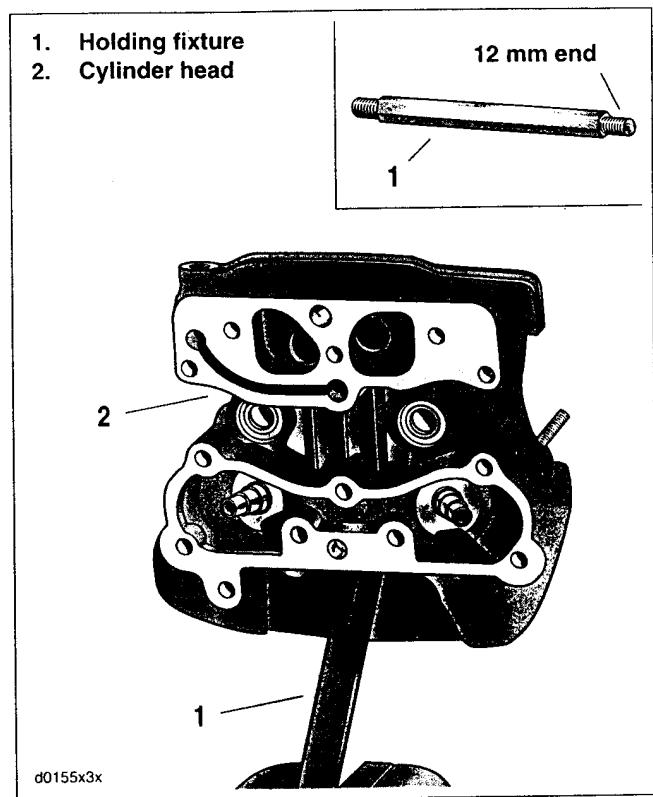
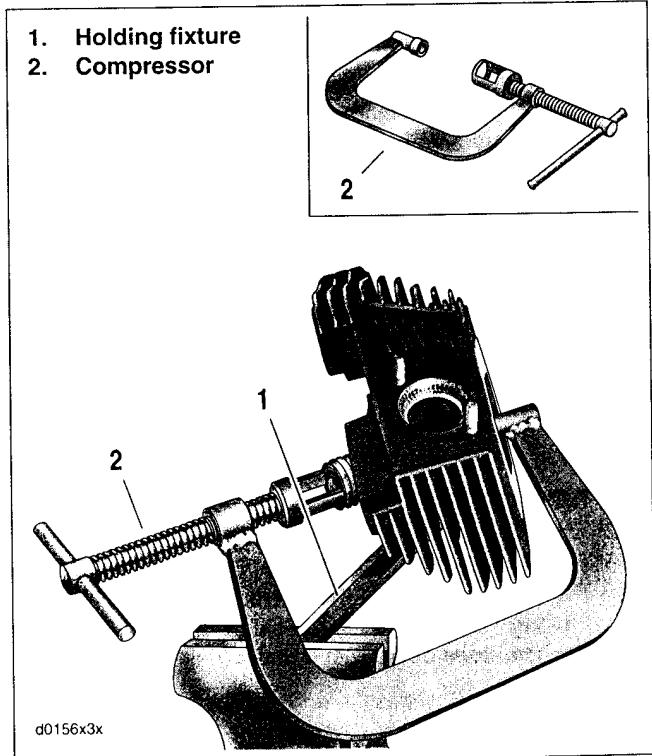
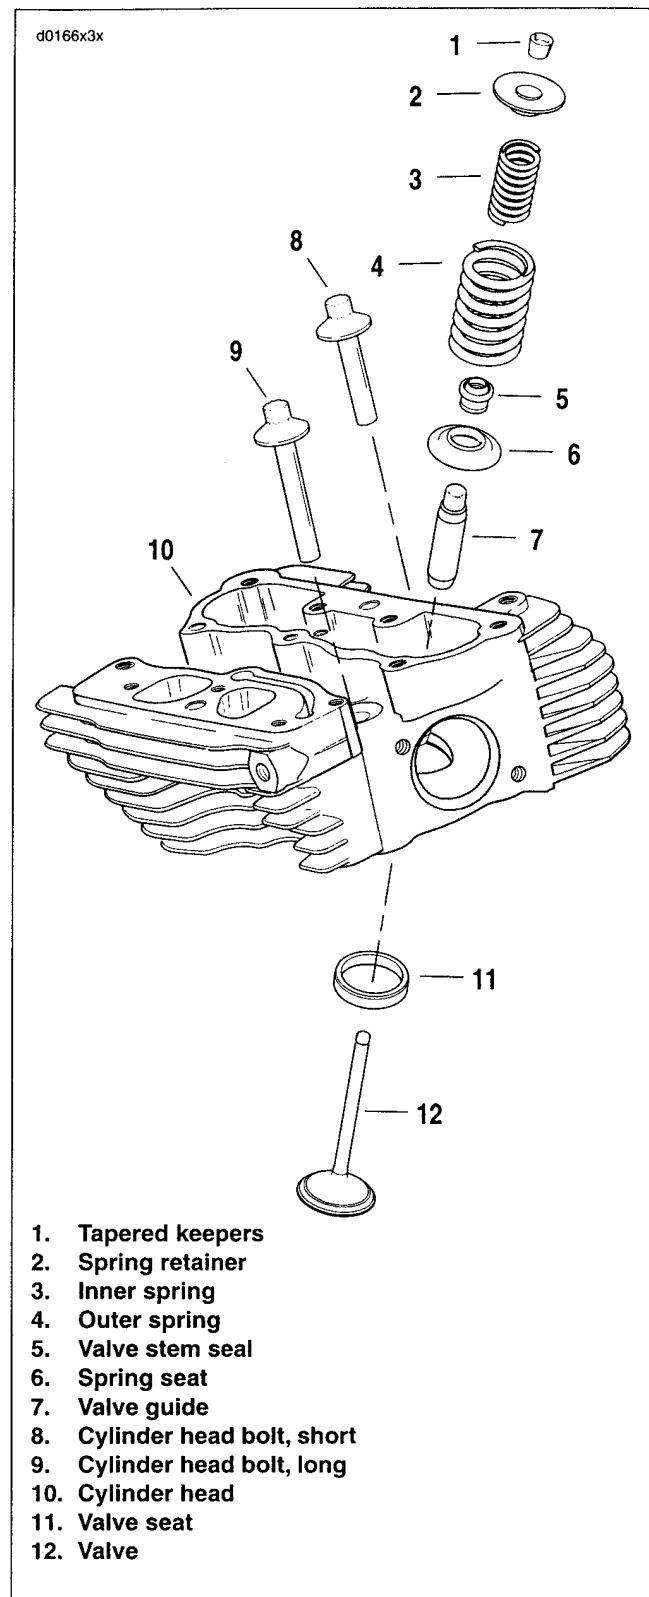

Figure 3-90. Cylinder Head Holding Fixture
Figure 3-91. Valve Spring Compressor
Figure 3-92. Cylinder Head Assembly
2. See Figure 3-90. Secure cylinder head for service.
- a. Thread 12 mm end of CYLINDER HEAD HOLDING FIXTURE (1) (Part No. HD-39786-A) into cylinder head (2) spark plug hole.
3. See Figure 3-91. Release valve spring compression.
- a. Place VALVE SPRING COMPRESSOR (2) (Part No. HD-34736-B) over cylinder head. Center blunt end on the valve head. Seat adapter at end of forcing screw on the valve spring retainer.
- c. See Figure 3-92. If spring retainer (2) has not broken free of tapered keepers (1), give head of tool a sharp tap with a soft mallet. Using magnetic rod or small screwdriver, remove the keepers (1) from the valve stem (12) groove.
4. Remove the spring retainer (2) and inner (3) and outer (4) valve springs.
5. Slide the valve (12) from the valve guide (7).
- See Figure 3-92. Remove old gasket material from cylinder head (10). Gasket material left on sealing surfaces will cause leaks.